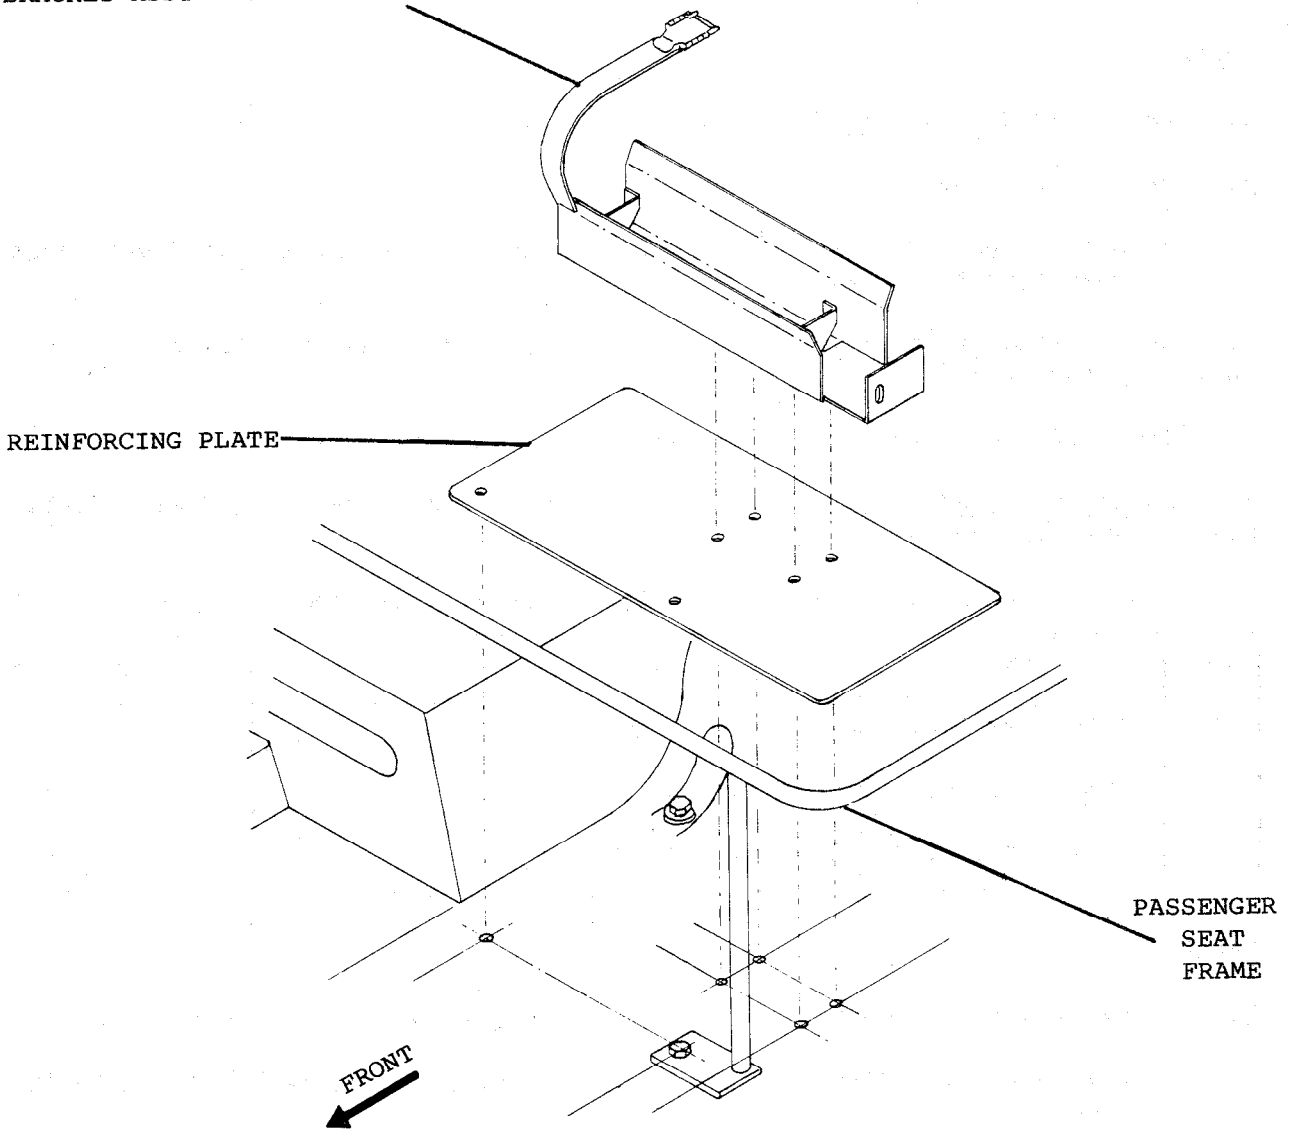

FIG 1 - HYDRAULIC JACK STOWAGE BRACKET
7. To carry out the modification, refer to Fig 1 and proceed as follows: